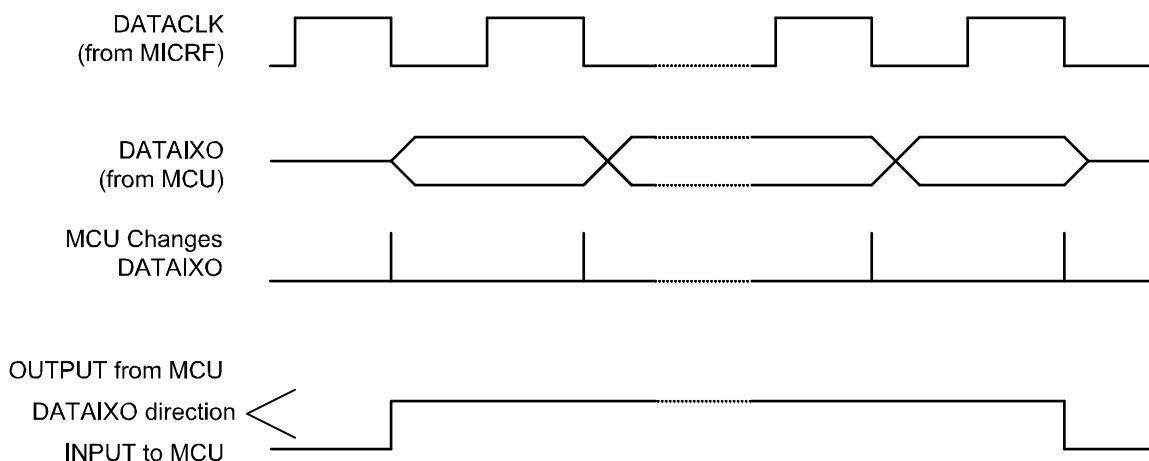

Figure 2. Data Interface in Transmit Mode
- Figure 2 illustrates how bits are transmitted. In the graphic, the DATAIXO line is changed (by the MCU) at negative edges of the DATACLK-pulses (made by the MICRF).